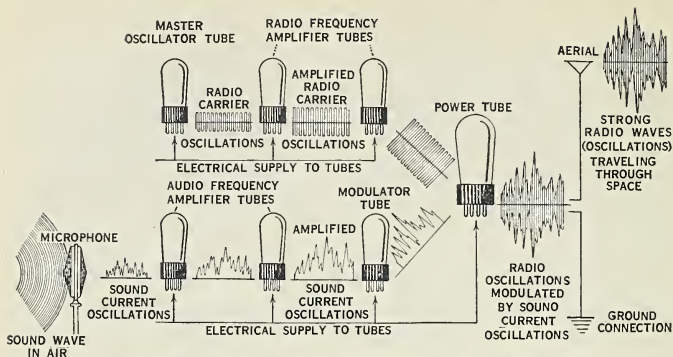

Fig. 325. The plan of radio broadcasting apparatus.
**Broadcasting.** Figure 325 shows the general plan for broadcasting. In the microphone the air waves set up waves or oscillations of electrons. In referring to the behavior of electrons in the apparatus, we generally use the term *oscillation*. A series of tubes represented in the lower part of the diagram amplifies these oscillations. These waves of low frequency are the sound, or *audio*, waves.